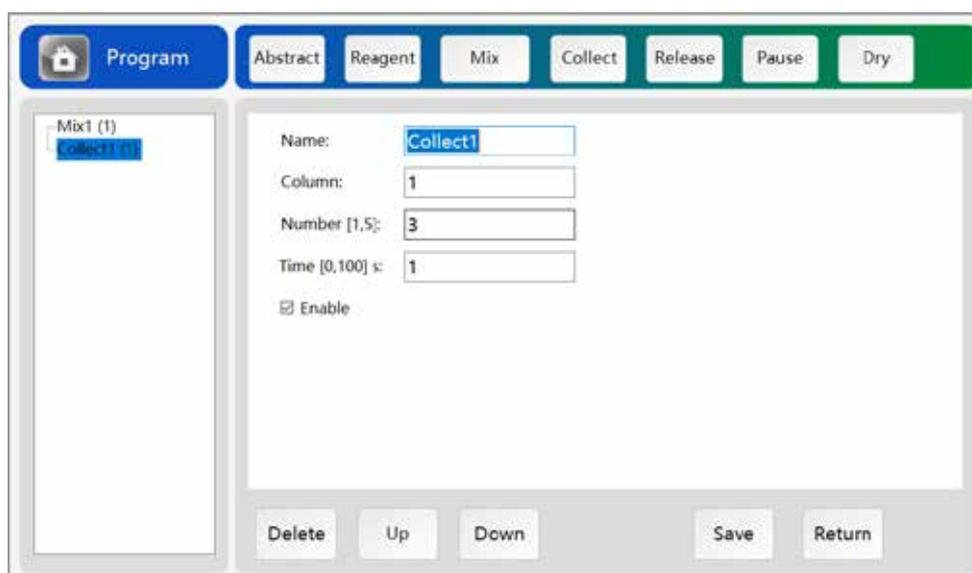

Figure 4-11 Collect
**Collect:** the same as the collect magnetic beads function in the "End Mixing " above, collecting magnetic beads function in this step can be set separately to collect the magnetic beads in a column for users flexible use, as shown in Figure 4-11.